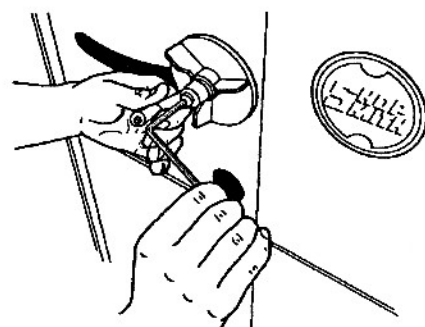

Fig. 27
39. Securely tighten the cap screw with a 5/32" Allen wrench (provided), as shown in Fig. 27.